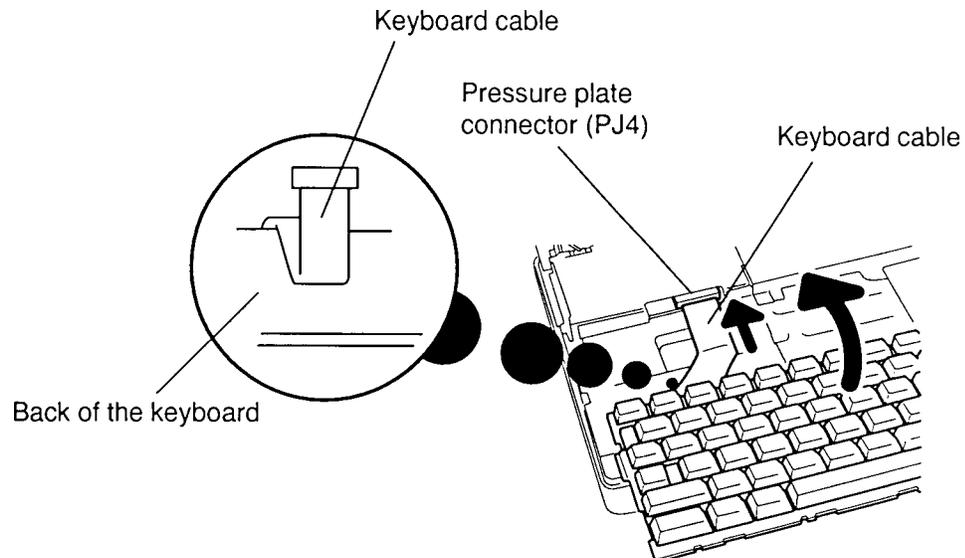

*Figure 4-7 Removing the Keyboard*
To remove the keyboard, follow the steps below and refer to Figure 4-7.
To install the keyboard, follow the steps below and refer to Figures 4-7 and 4-8.
1. Connect the **keyboard cable** to **pressure plate connector PJ4** on the upper system board (Figure 4-7).